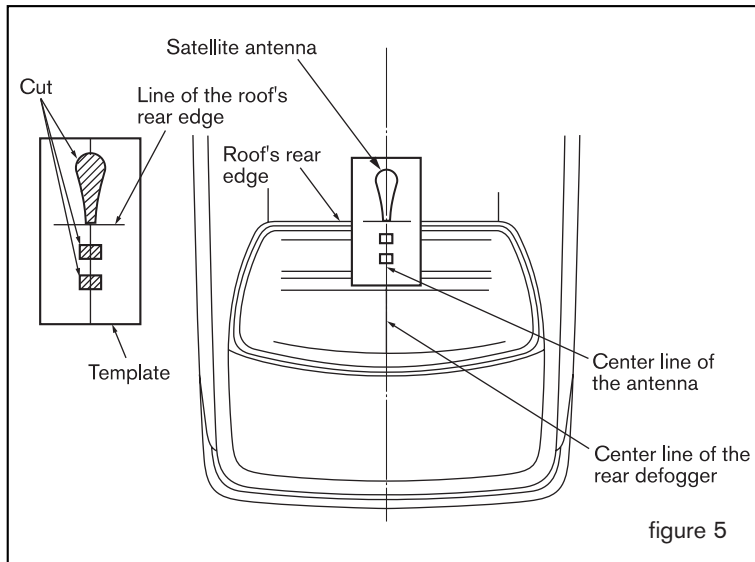

figure 5
- (8) Cut the shape of the antenna and 2 square holes out of the template. (figure 5)
- (9) Place template on glass and antenna. Align center line of template with center line of glass at the bottom of template and square hole.